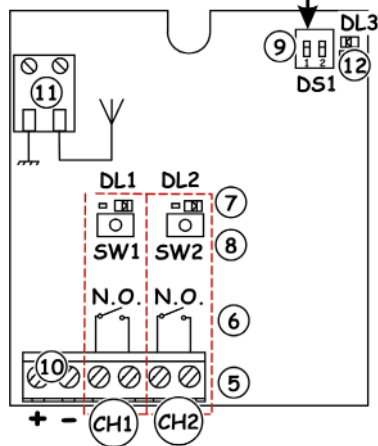

Fig. 1
4. Press, for 1 second, the push-button on the receiver (Fig.1 ref.⑧) relating to the channel you wish to associate with the radio control.
5. The relevant LED on the receiver (Fig. 1 ref. ⑦) begins to flash slowly for 5 secs.
7. The LED on the board (Fig.1 ref.⑦) lights up on steady beam for 1 second and then goes OFF, indicating that storage was executed.